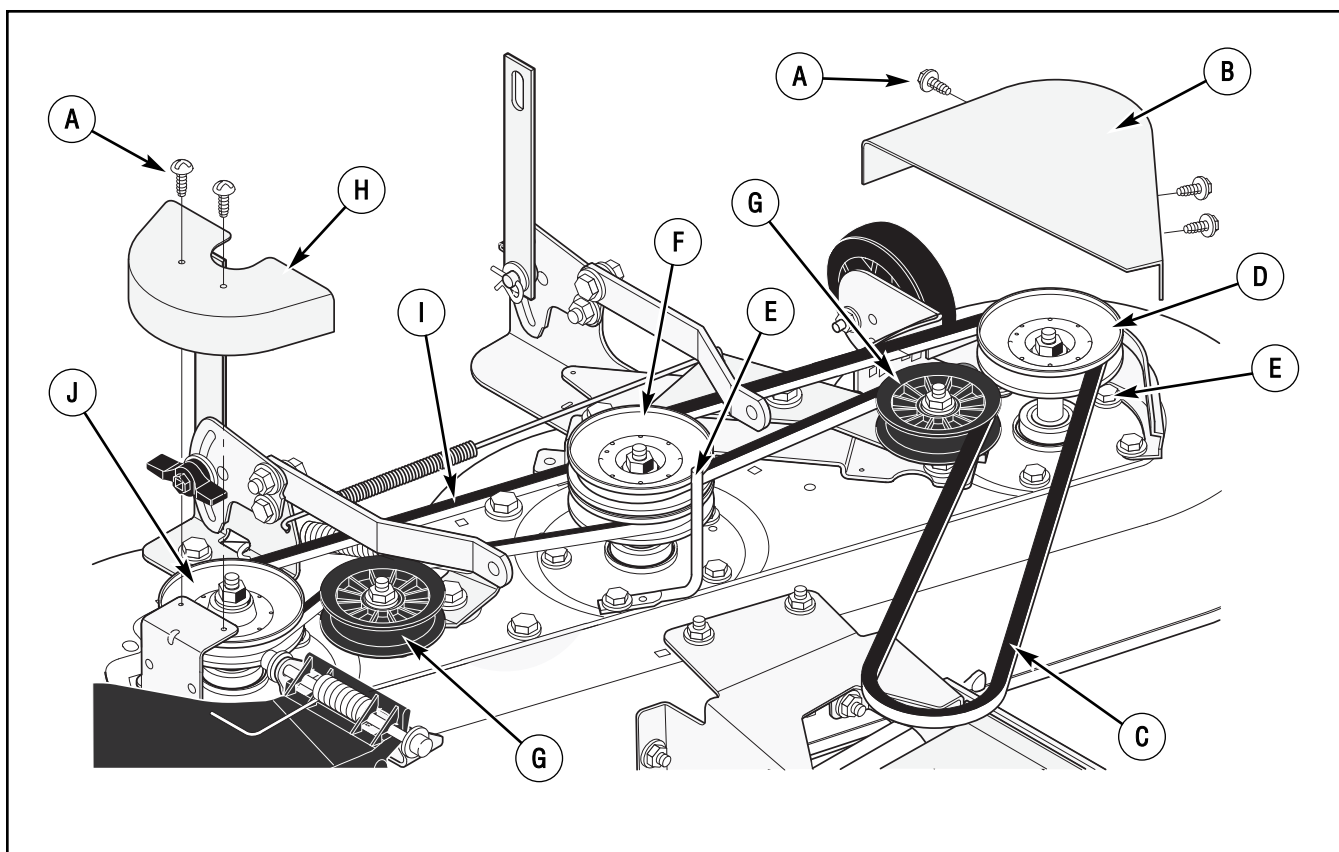

Figure 38: Mower drive belt assembly
2. Remove the three **screws** from the **left pulley cover**. Remove the **pulley cover** (Figure 38).
2. Remove the **primary mower drive belt** from the **stack pulley** (Figure 38).